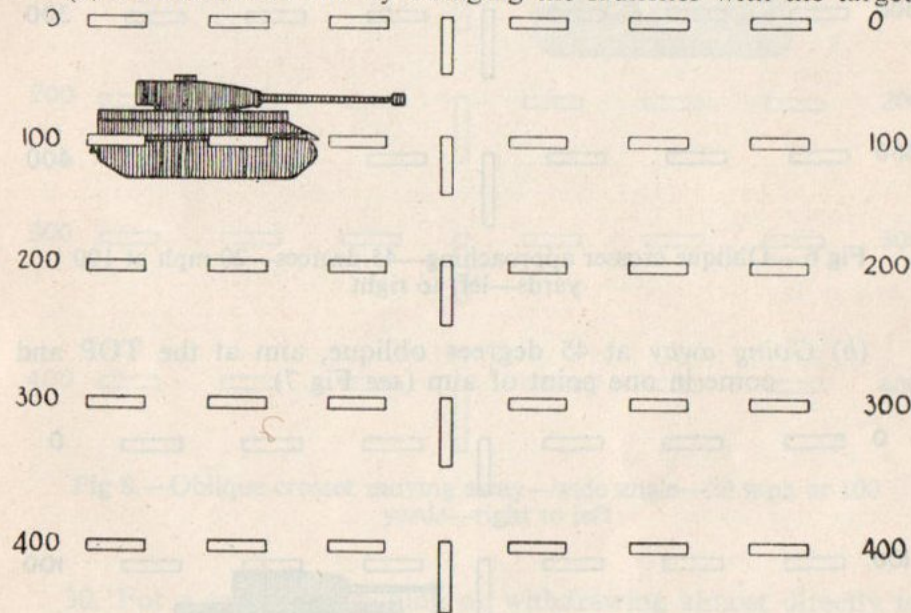

Fig 5.—Direct crosser—20 mph at 100 yards—left to right
25. *Directly crossing targets.* Explain, using diagrams (see Fig 5):—